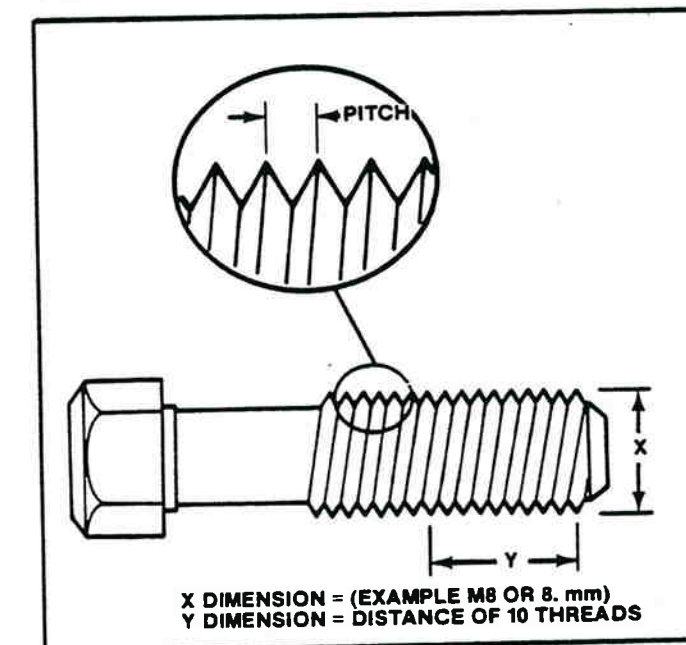

Figure 2-104. Determining Size Of Metric Fastener.
- a. Measure the diameter of the threads in millimeters (dimension X) (Figure 2-104).
- b. Measure the distance of ten (10) threads, point to point in millimeters (mm), dimension Y. Make a note of dimension Y (Figure 2-104).
- c. Divide dimension Y by ten (10). The result will be the distance between two threads or pitch. Example of a Metric size fastener is M8 x 1.25. The M8 is the diameter of the fastener in millimeters (mm) (dimension X). The 1.25 is the distance between two threads or pitch.